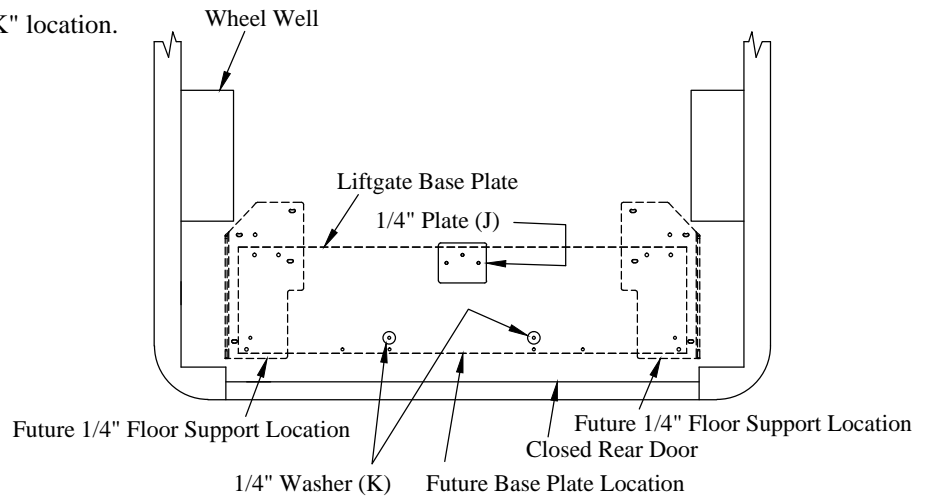

Figure 12: Floor support locations (top view).
- 2-1/2" from the the closed rear doors at the center (Figure 12).